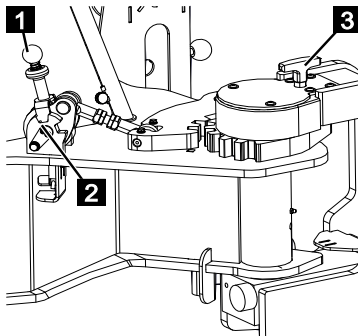

Fig. 126
2. Ensure that the locking lever (Fig.126/1) is positioned fully upright and the locking device is engaged in the upper-most position (Fig.126/2).
3. Pull the locking pin (Fig.126/3) upwards until the outrigger can be pivoted freely.